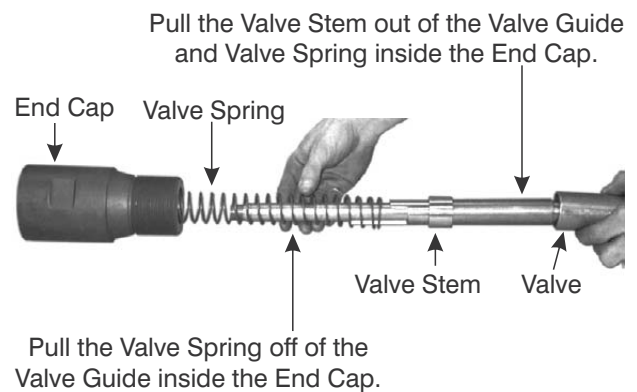

Figure 8-27. Remove the Valve Components from the End Cap.
1. After the assembled Valve Stem (5), Valve Spring (6) and Valve (1) are removed from the End Cap (8), slide the Spring (6) from around the Valve Guide inside the End Cap, and from the Valve Stem. Refer to Figure 8-27.